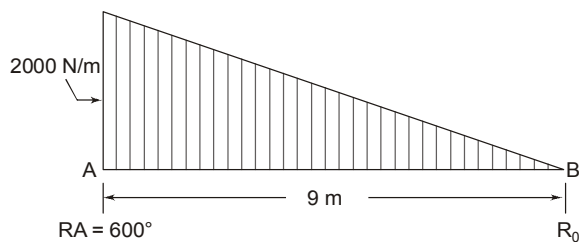

Fig. 1
7. (a) A bar 40 mm in diameter is subjected to a tensile force of 40,000 kg. The extension of bar measured over a gauge length of 200 mm was 0.318 mm. The decrease in diameter was found to be 0.02 mm. Calculate values of Young's modulus of elasticity and modulus of rigidity of the material. (10)
- (b) Draw S.F and B.M. diagrams for beam loaded with varying load as shown in Fig.1 (10)